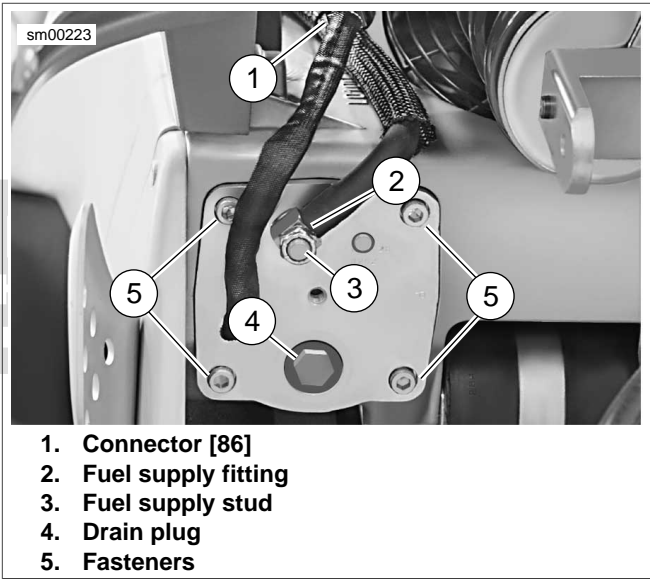

Figure 4-38. Fuel Pump Installation
3. See Figure 4-38. Insert four screws (5) through fuel pump and into frame.
- a. See Figure 4-38. Disconnect the 4-place fuel pump connector [86]. Connector is located on the left side, above the fuel pump.